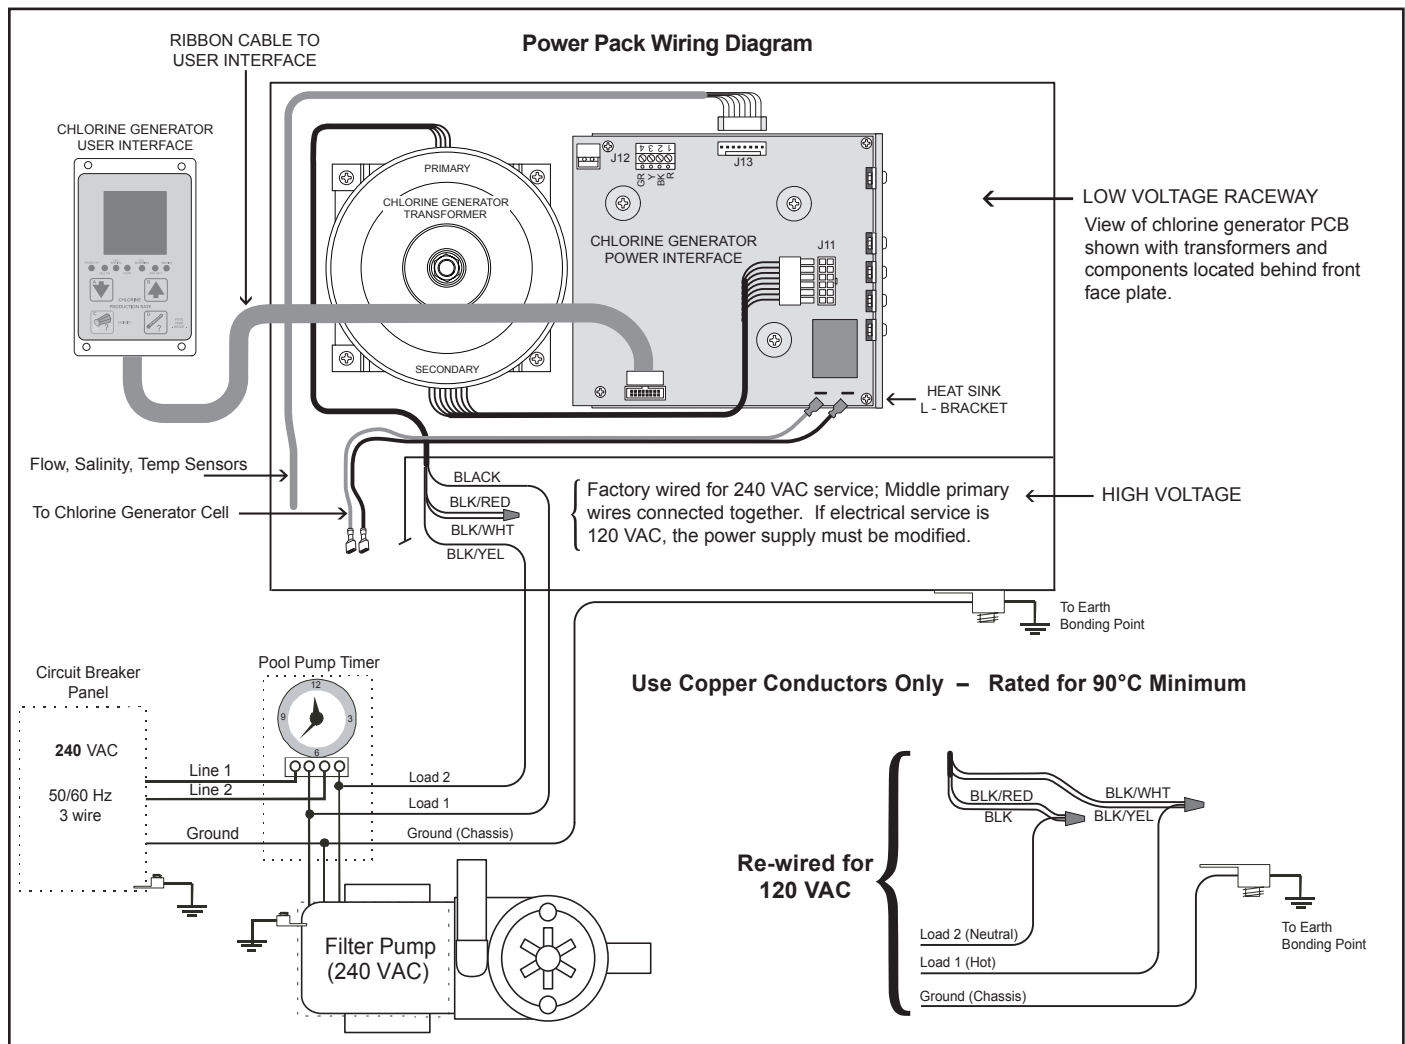
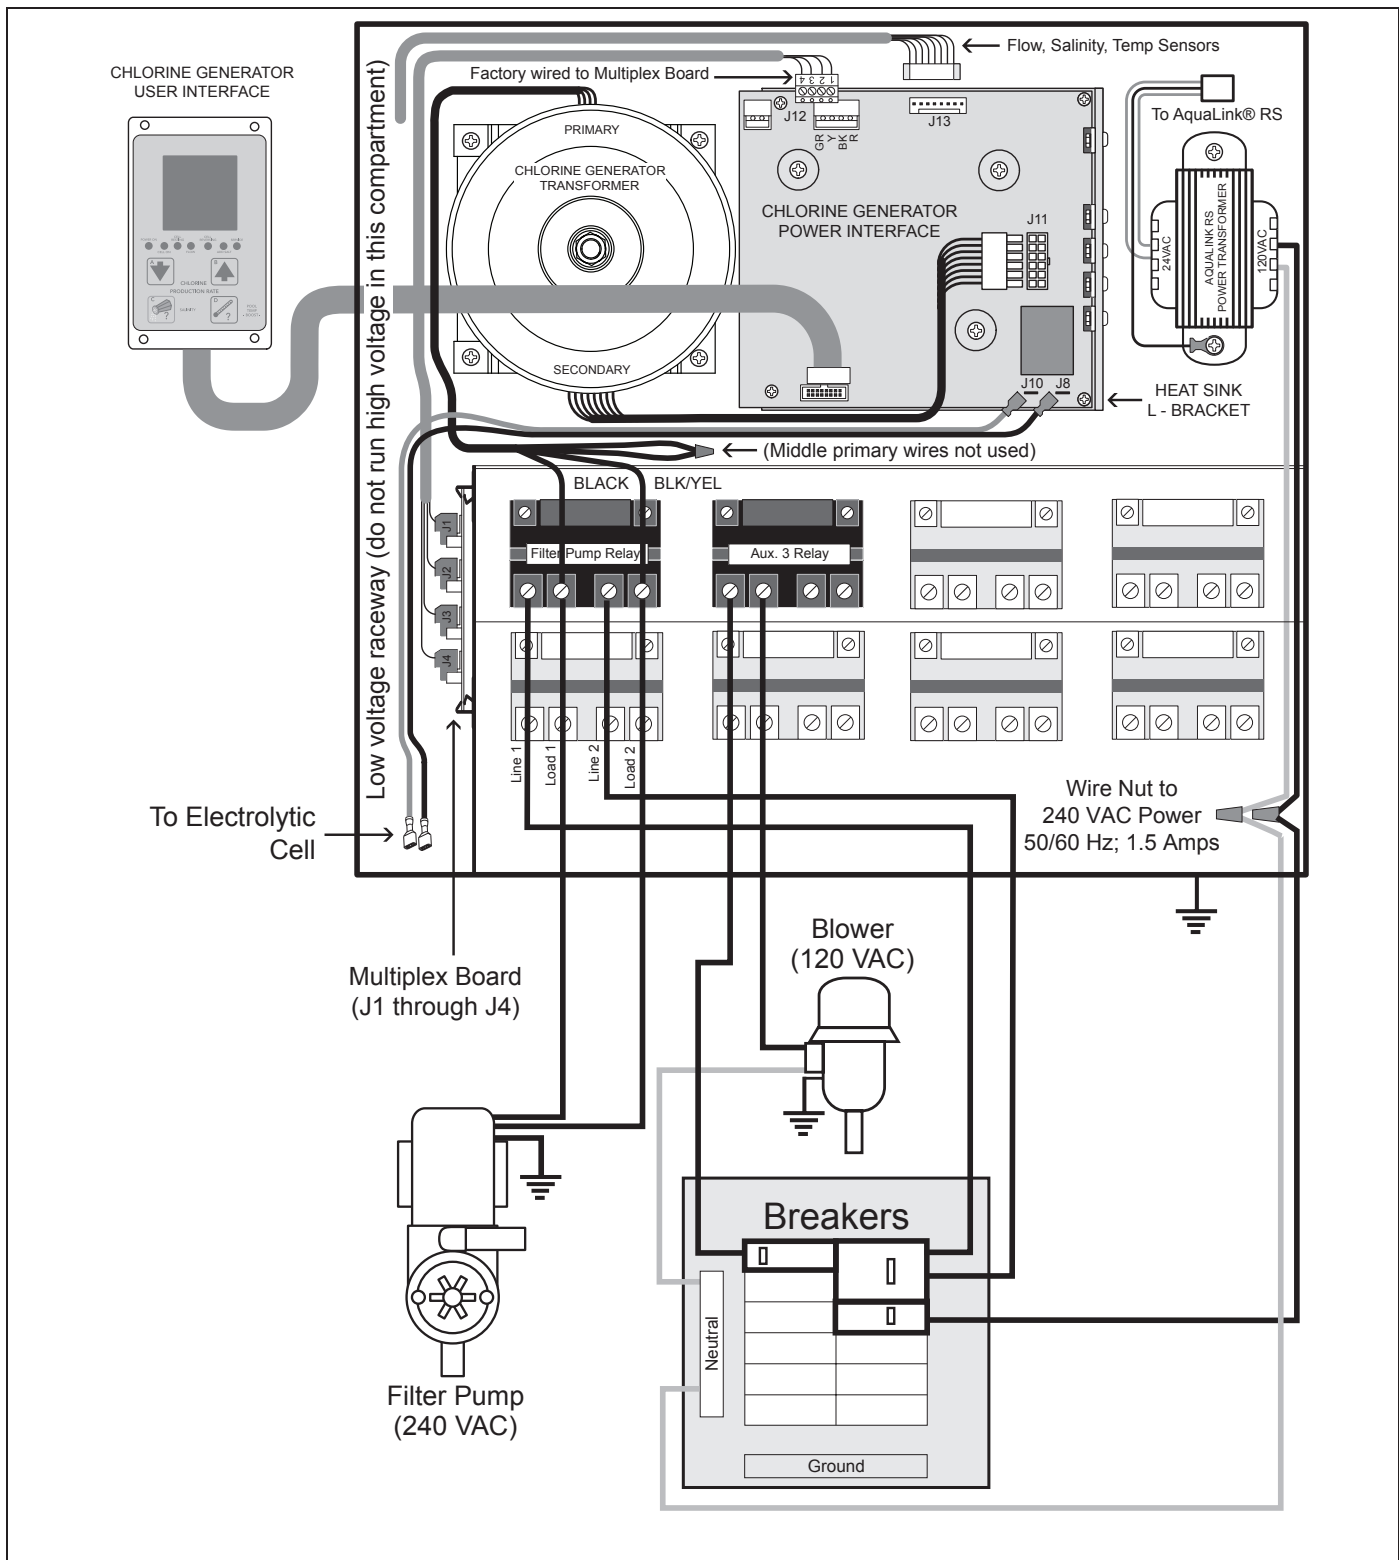
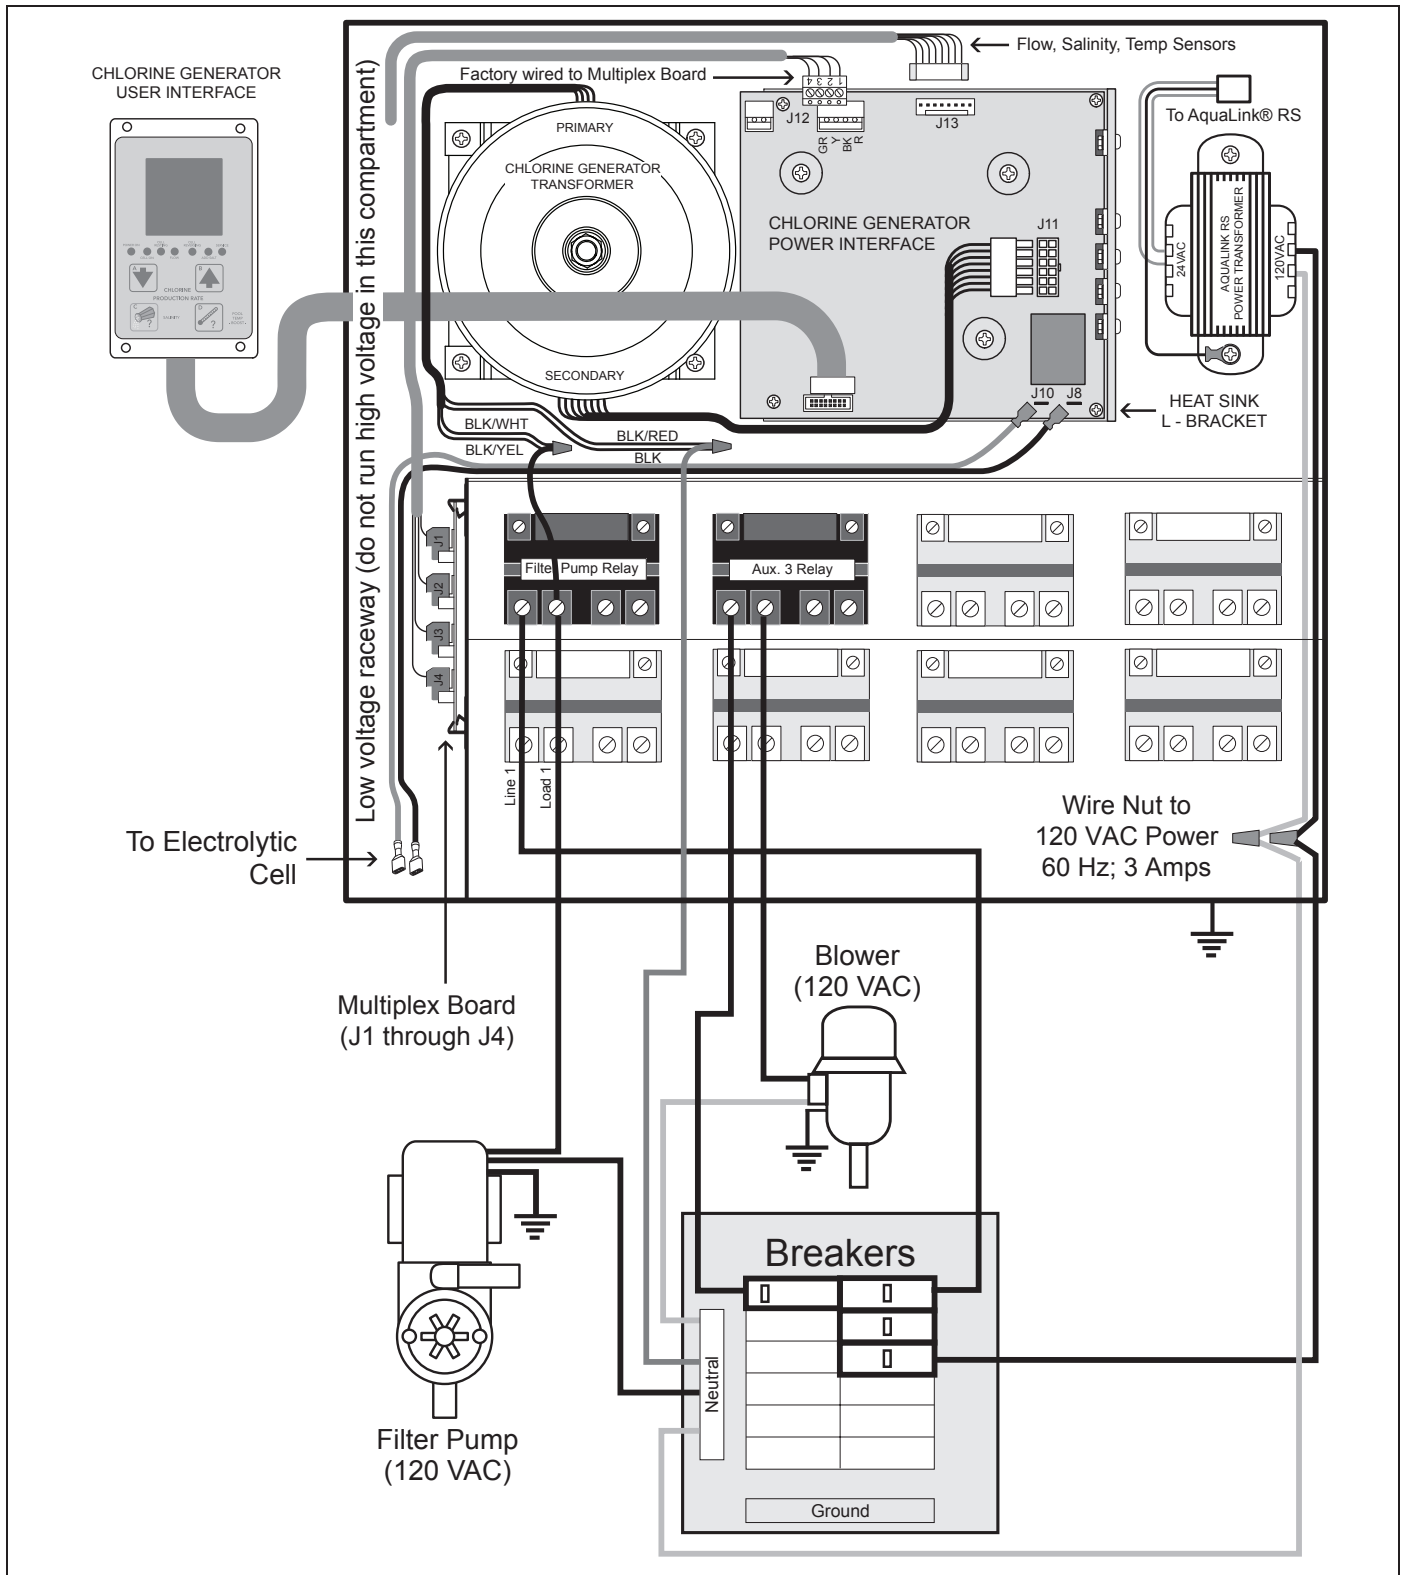

Figure 11. Wiring Diagram for the Power Pack
Figure 12. Wiring Diagram for the AquaLink® RS PureLink™ System with connection to 240 VAC Filter Pump
Figure 13. Wiring Diagram for the AquaLink® RS PureLink™ System with connection to 120 VAC Filter Pump
8. Check source voltage. (All units are factory wired for 240 VAC). ***In order to use on 120 VAC, the internal factory wiring of the power center must be changed. (see Figure 11 and Figure 13).***
3. Install the strain relief provided with the vessel kit into the low voltage knock out at the power pack. Feed the connector end of the flow/temp/salinity sensor cable through the DC cord strain relief fitting. ***Be certain the connector is clean and dry***, then plug the cable into the connector on the power center printed circuit board as shown in Figure 11, Figure 12 and Figure 13. ***(Do not pull flow/temp/salinity sensor cable too tight, allow some slack)***.
5. Connect the DC cord to the power center. Feed the DC cord through the same strain relief fitting as the flow/temp/salinity sensor at the power pack. Plug the DC cord into the two (2) spade connectors of the wiring harness located in the low voltage raceway of the control/power center, see Figure 11, Figure 12 and Figure 13. This wiring harness establishes the connection between the cell and the power interface board.
8. If the ribbon cable connecting the user interface to the power interface board was disconnected during installation then reconnect before reattaching cover (see Figure 11, Figure 12 and Figure 13).
Wire the PureLink power center transformer to the load side of the filter pump relay. See Figure 12 and Figure 13.